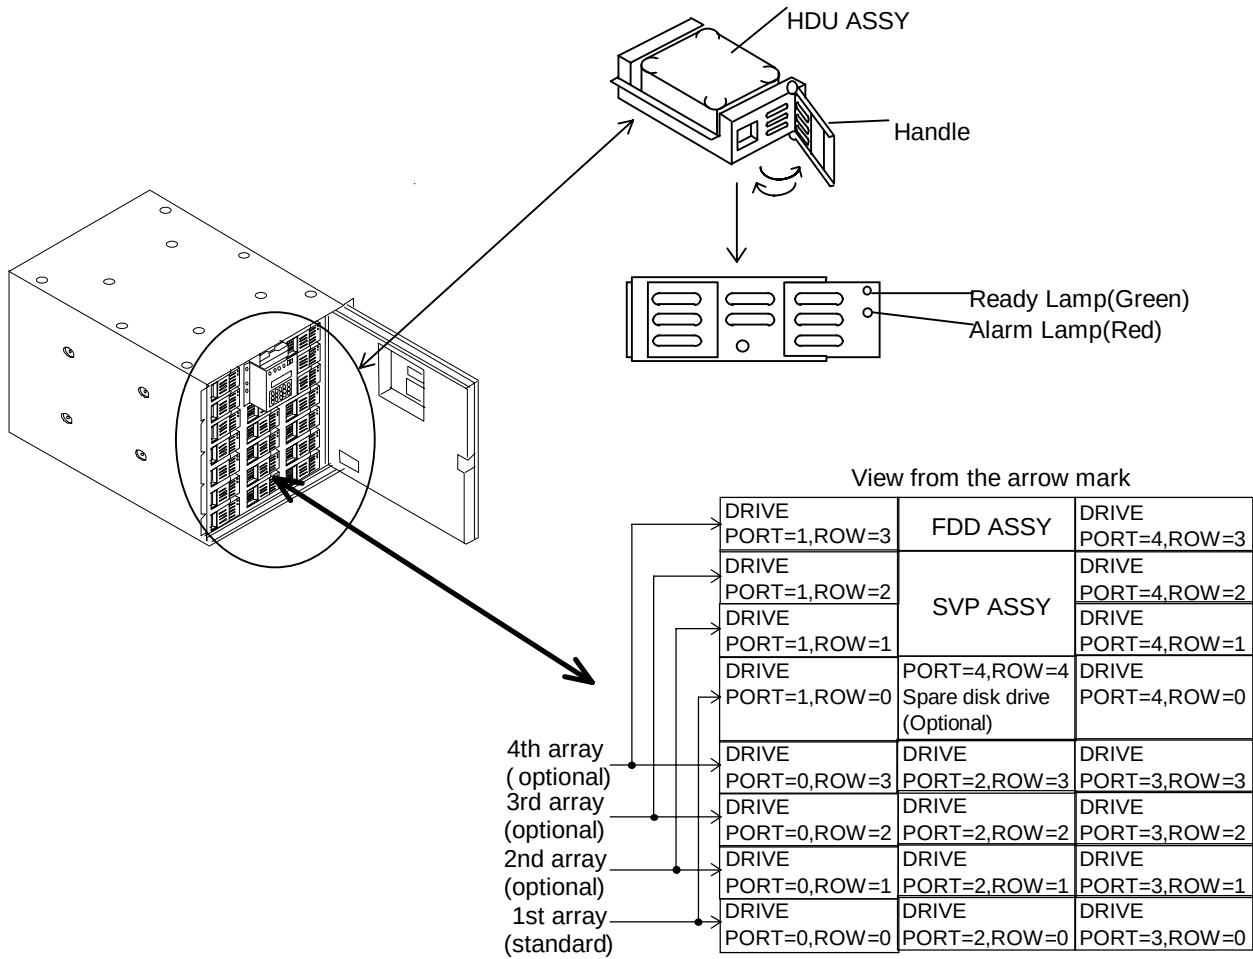

Figure 3.2.4 Installing HDU ASSY
3.2.3 Installing HDU ASSY (See Figure 3.2.4.)